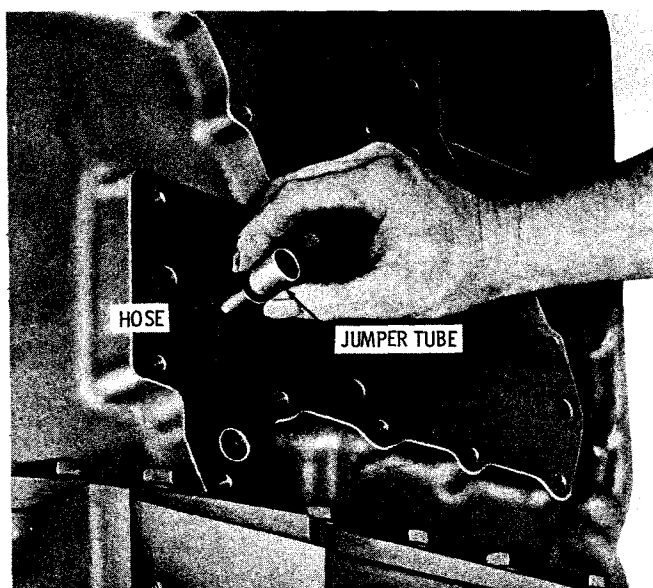

Fig. 7-40. Installing low- and intermediate-range clutch oil jumper tubes S1687
(8) Install two oil jumper tubes, each with a hose (fig. 7-40).